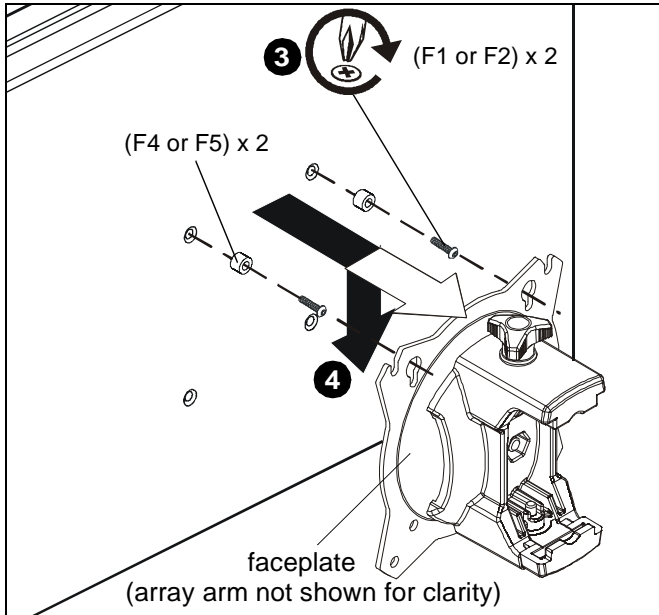

Figure 10
3. Using Phillips screwdriver, carefully install two selected screws (F1 or F2) through selected spacers (F4 or F5) into the *upper* mounting holes on the display. Thread screws completely into display, then back out 3 complete turns. (See Figure 10)
4. Pick up and align display so that screws (F1 or F2) (installed on the back of the display in the previous step) fit into the mounting holes on the faceplate. Lower the display firmly into place. (See Figure 10)